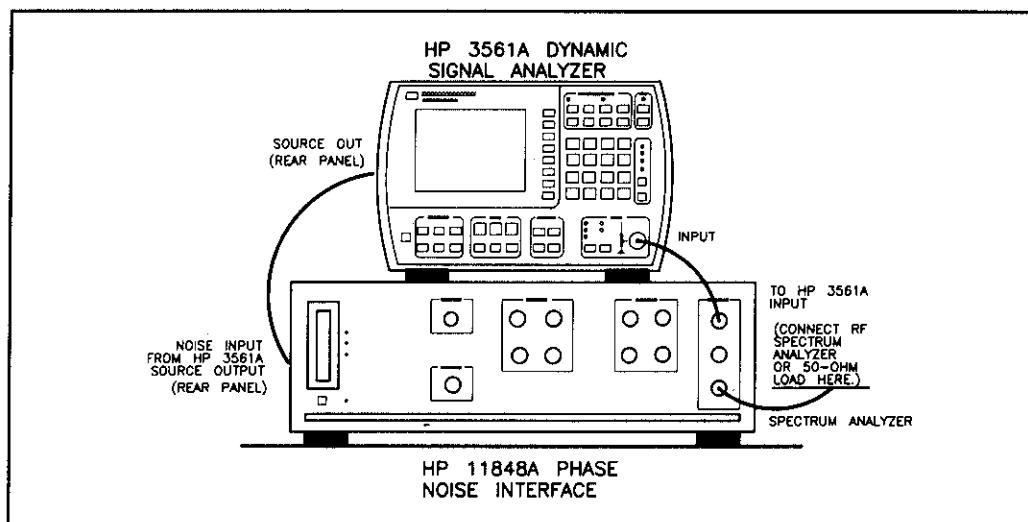

Figure 21. A4 Low-Noise Amplifier Gain Adjustment Setup
13. Connect the instruments as shown on the display and in figure 21.